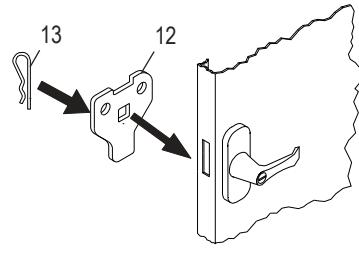

Figure 11
2. Turn the handle to the open position, and place the locking cam (12) over the square shank of the door handle. The cam must be facing down as shown. (See Figure 11) Then place the locking cotter pin (13) through the hole of the square shank. (See Figure 12)